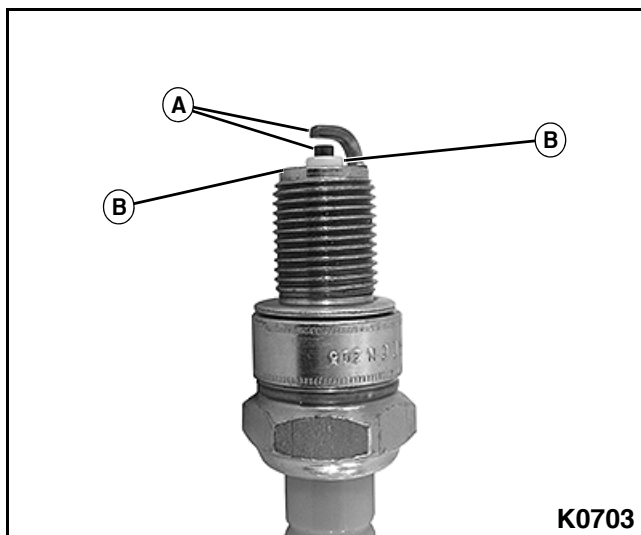

Figure 3-25
1. Inspect spark plug electrodes (A) for wear. See Figure 3-25.
2. Check color of the deposits (B) on spark plug.